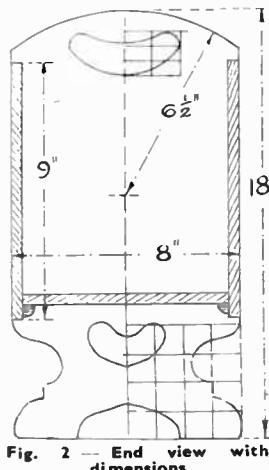
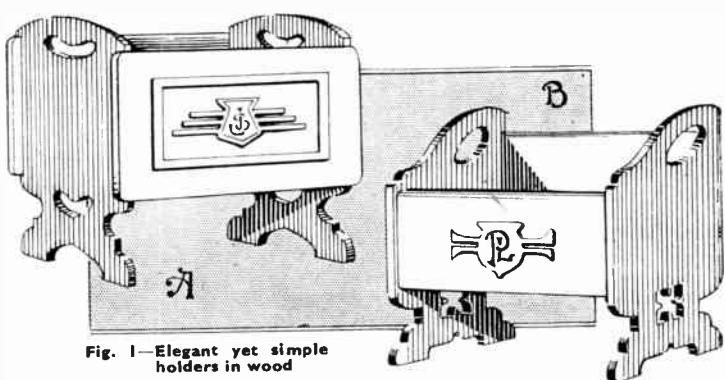

Fig. 2 — End view with dimensions
Fig. 1 — Elegant yet simple holders in wood
The illustrations in Fig. 1 give a good idea of the stands, and we will first describe that shown as (A). The two ends are of  $\frac{1}{2}$ in. wood, and their outline can be drawn from the detail, Fig. 2. A plain oblong of wood is first cut measuring 18ins. by 8ins., and a centre line should first be drawn down its centre as shown.
The sides of the stand (see Fig. 2) are recessed into the upright edges of the ends. The sides are shown shaded in the diagram, and are let in  $\frac{1}{2}$ in.—the full thickness and the width of the sides.